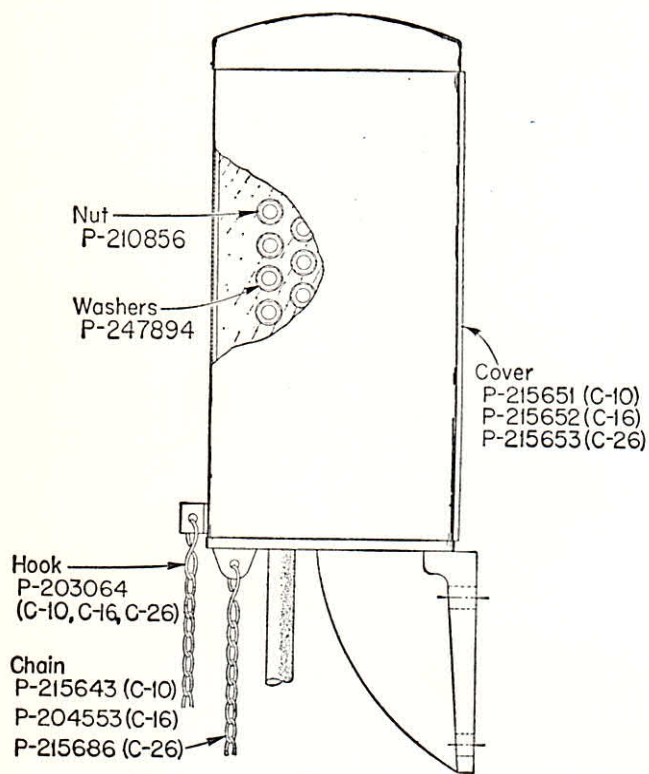

Fig. 2
3.01 Parts are indicated in Fig. 2.